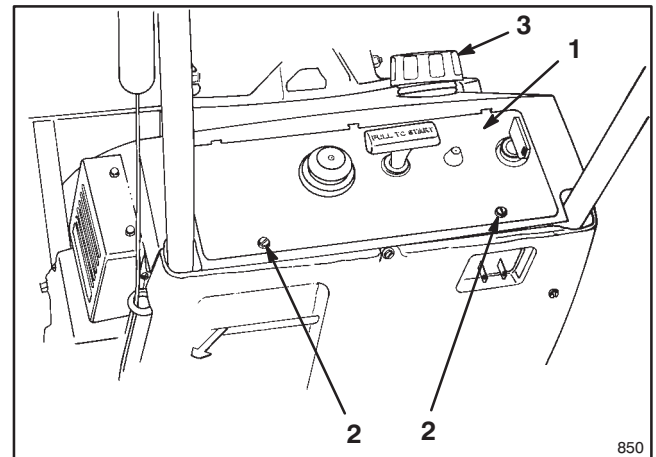

Figure 3
3. Remove (2) two screws from control panel (Fig. 3) and allow panel to hang from recoil rope.
2. Capscrew (2)
4. Remove gas cap (Fig. 3) and save.